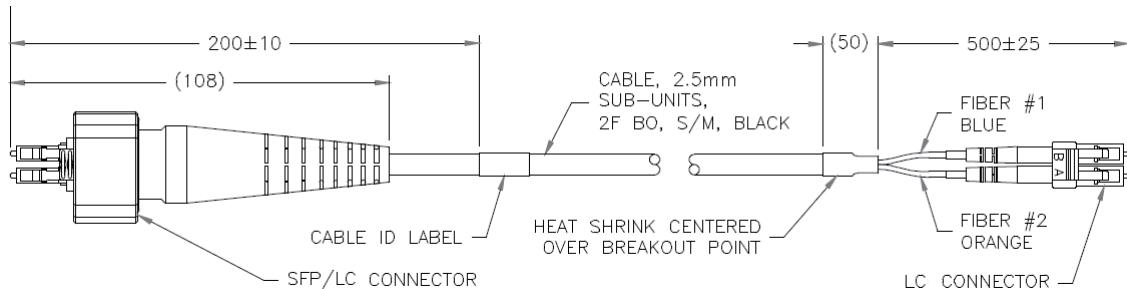
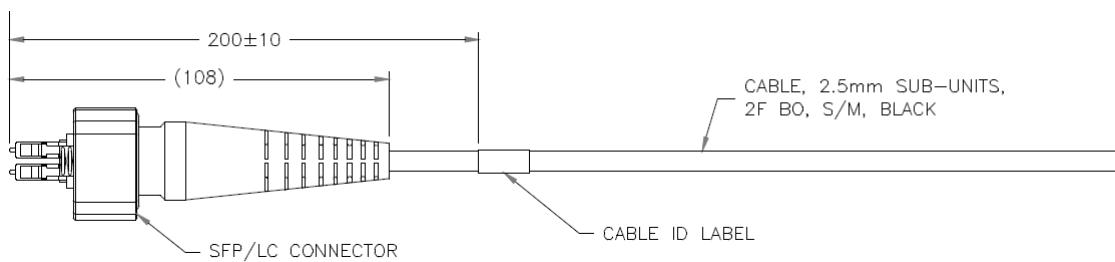

Fig.67 - Jumper LC/SFP - LC/LC
Fig.68 - Jumper LC/SFP - Open end
- ODU optical cable see Tab.18 and Fig.67, Fig.68, Fig.69